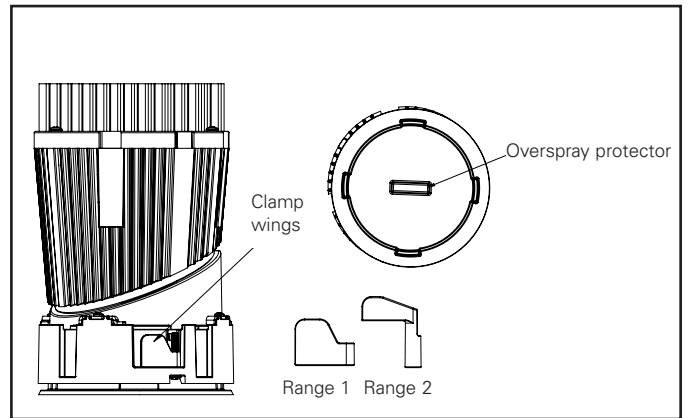
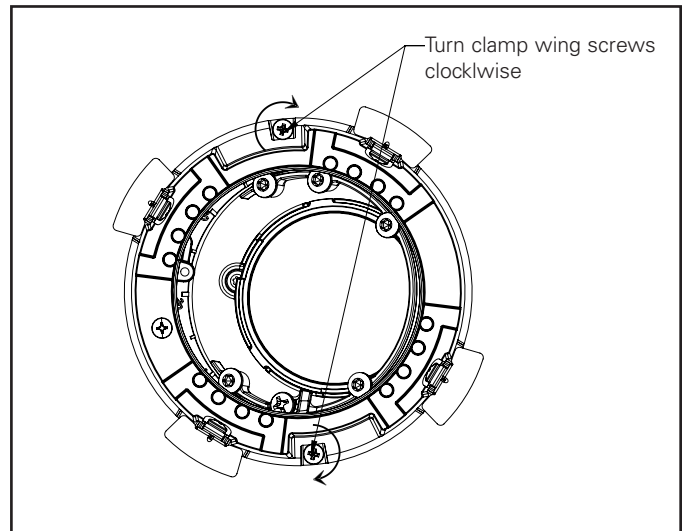

Figure 4.
Figure 6.
5. Remove the overspray protector (see Figure 4), retain it for reinstallation upon completion of the installation process. (Note: The overspray protector is not required for the self-flange version).
6. Make certain clamp wings can move freely. If clamp wings are tight and cannot freely move, turn the mounting screws counter-clockwise one turn (see Figure 6). Making sure the clamp wings are snug against the LED Module prior to inserting the module into the ceiling (see Figure 4).
8. Turn both clamp wing screws clockwise until the clamp wings clamp the module into the ceiling (see Figure 6). Do NOT over torque the screws. HAND-TIGHTEN ONLY. *For room-side inspection of splices: Verify power has been turned off at the fuse box or circuit breaker & follow steps 8-2 in reverse. *